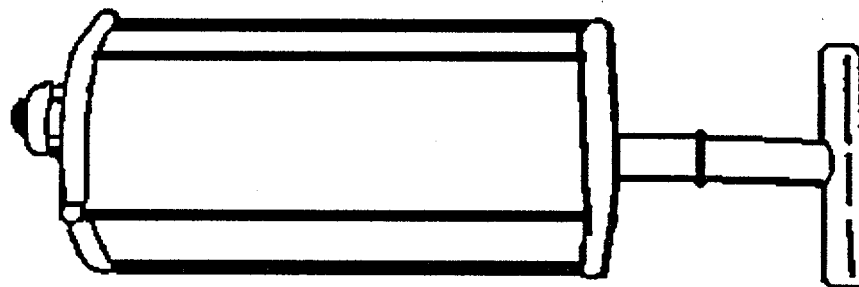

Figure 2-77. Pump, Inflation, Life Raft
- bc. Pump, Inflation, Life Raft. The inflation pump (See Figure 2-77) is used on multi-place life rafts to inflate the buoyancy cells.